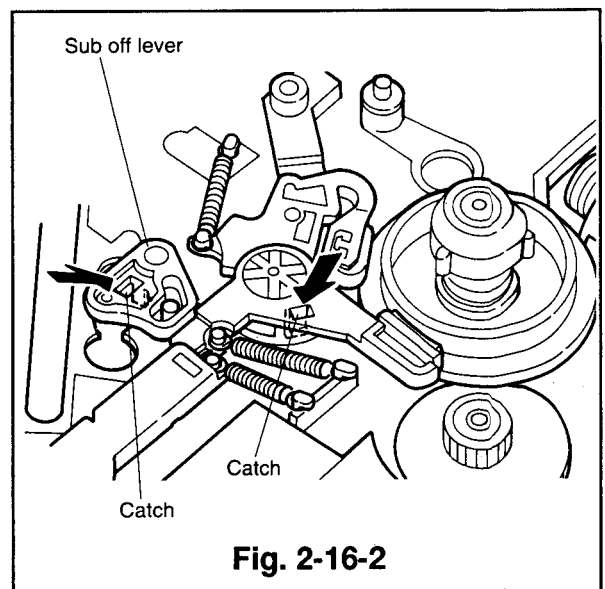

Fig. 2-16-2
- ① Remove the cassette housing. (Refer to Para. 2-1 for the removal method.)
- ② Remove the sub brake(SP) and the sub spring(SP). (Refer to Para. 2-14 for the removal method.)
- ③ Unfasten the catch with a small screw driver, etc., and raise the sub off lever upward to remove it. (Refer to Fig. 2-16-2)
- ⑤ Unfasten the catch with a small screw driver, etc., and raise the sub brake(TU) upward to remove it as shown in Fig. 2-16-2.